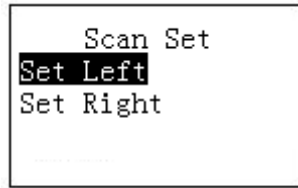

Figure 4-5
b) Select Set and then click **【ENTER】** , you can see an interface shown as in Figure 4-5.